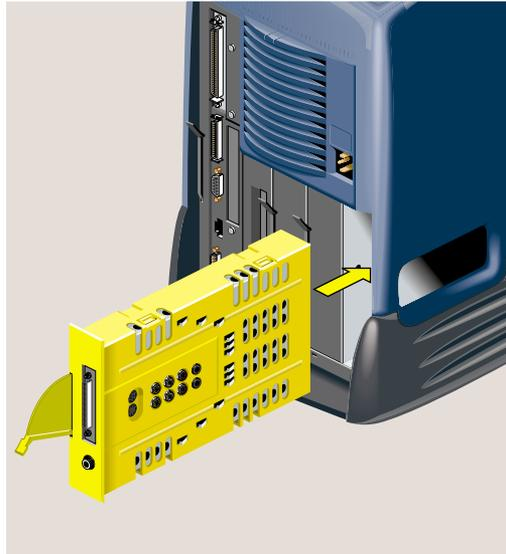

Figure 3-9 Reinstalling the Audio-Visual Module in the Chassis
9. Slide the audio-visual module back into the bay on the far right of the chassis (Figure 3-9).